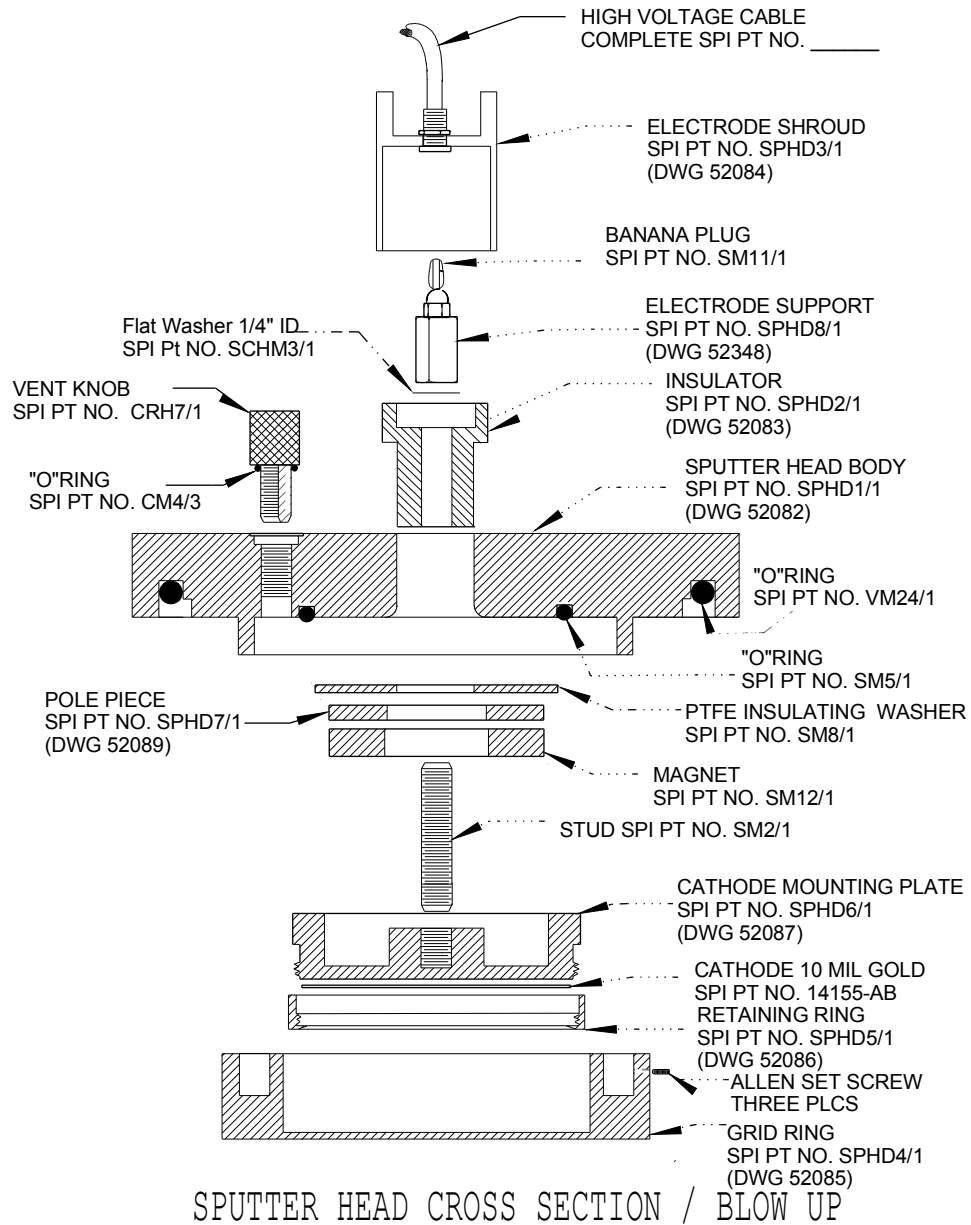

Figure 3
- Figure 3 Exploded section of the sputter head